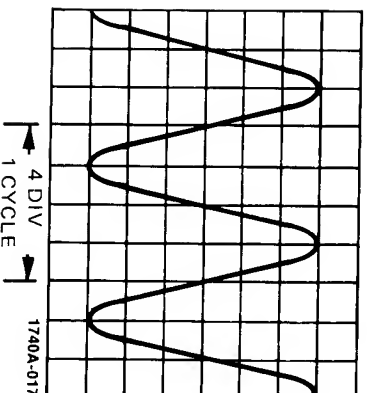

Figure 14. Period Measurement
**Example:** Assume one cycle of the waveform occurs in four divisions, the MAIN TIME/DIV setting is 0.2 mSEC, and the MAG X10 switch is off (see figure 14).